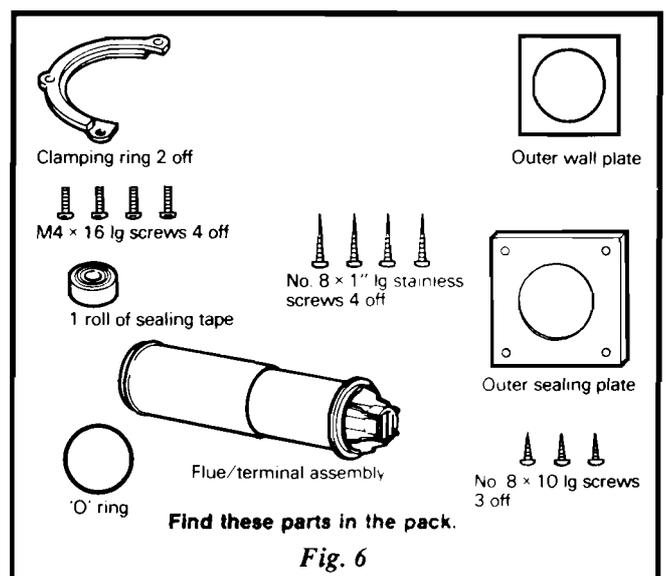

Fig. 6
14.4 Unpack the flue/terminal assembly - see Fig. 6.